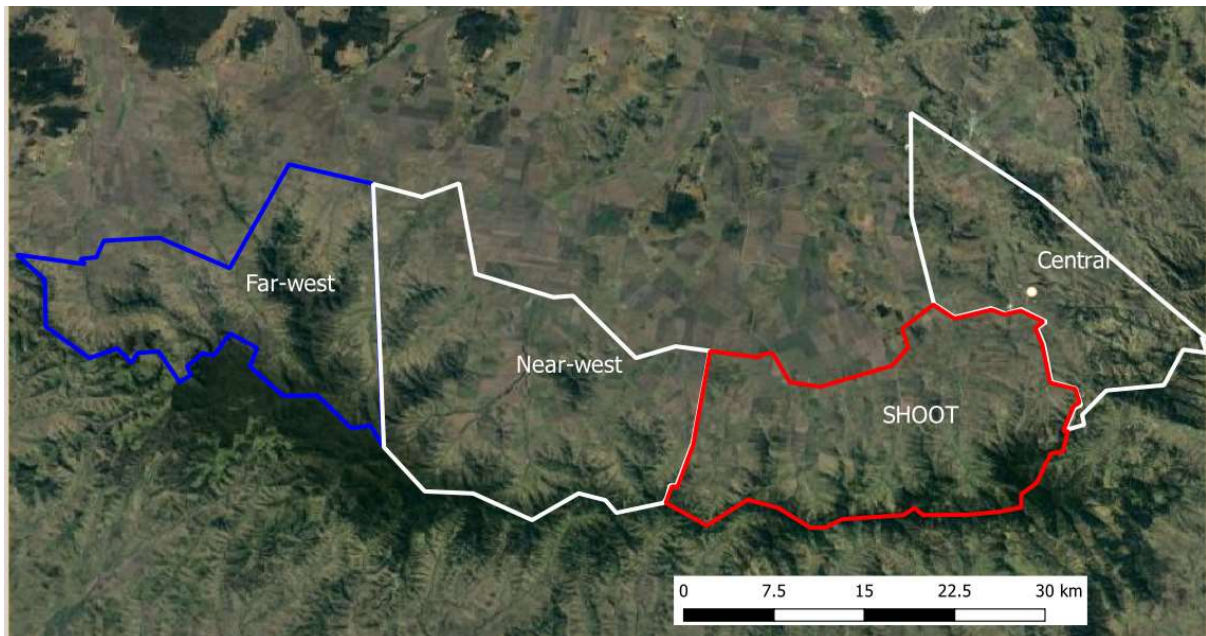

Figure 1: Survey blocks at the Liverpool Plains study site.
- The surveys were broken into four separate blocks to provide separate density estimates for each (Figure 1).